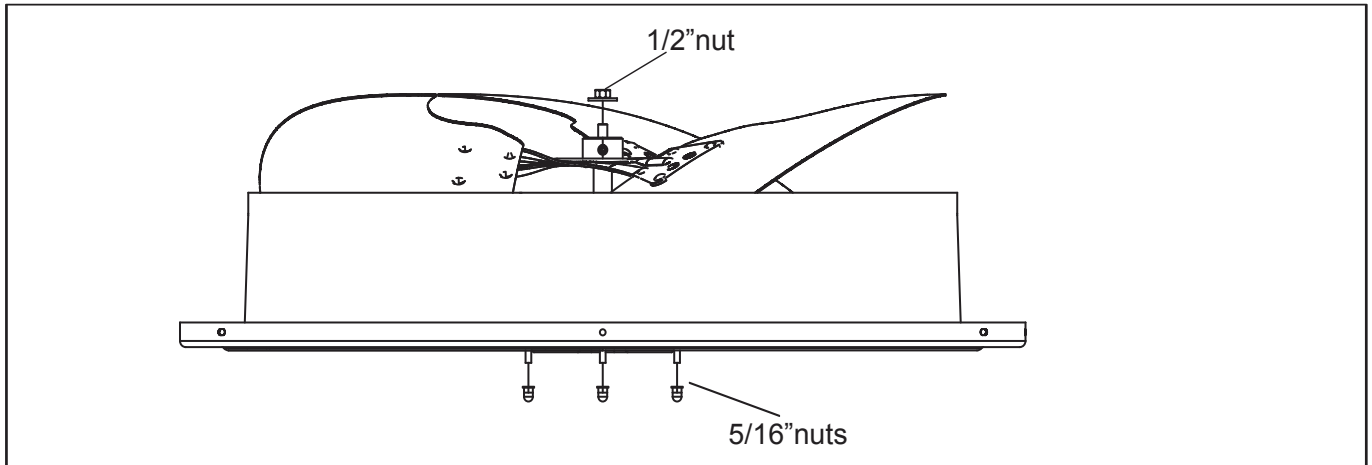

Figure 43
STEP 3 - Be sure to place fan cover unit on the ground (Figure 43 ).